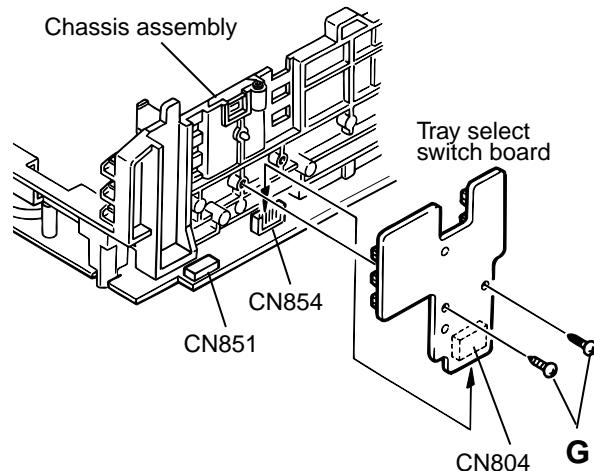

Fig.14
■ Removing the try select switch board (See Fig.14)